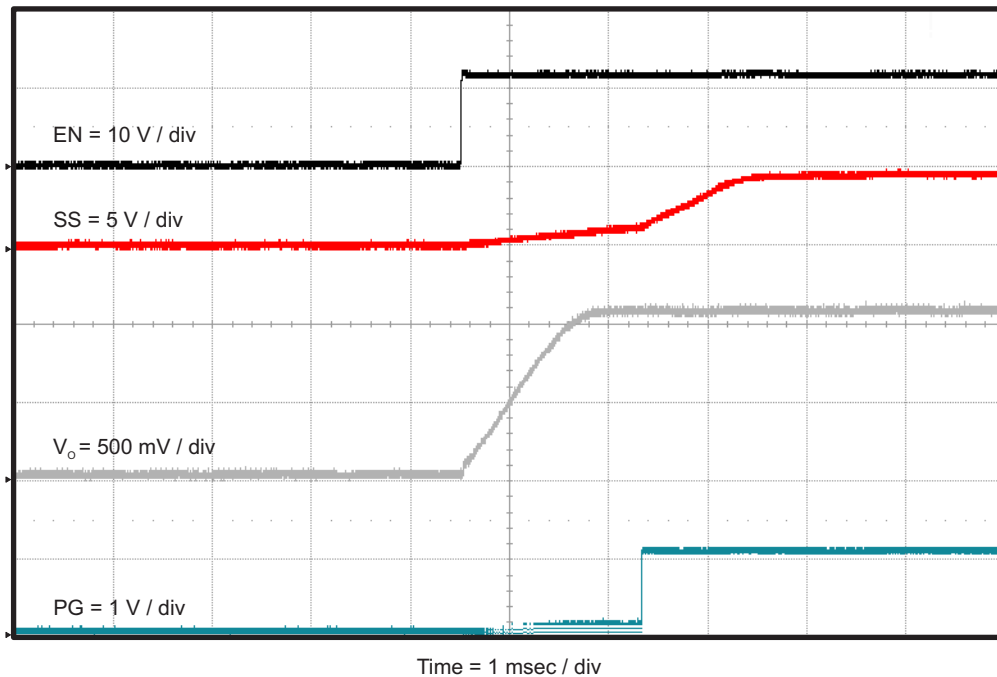

Figure 12. TPS562210EVM-663 Start-Up Relative to EN
The TPS562210EVM-663 start-up waveform relative to enable (EN) is shown in Figure 12. Load = 1 Ω resistive.